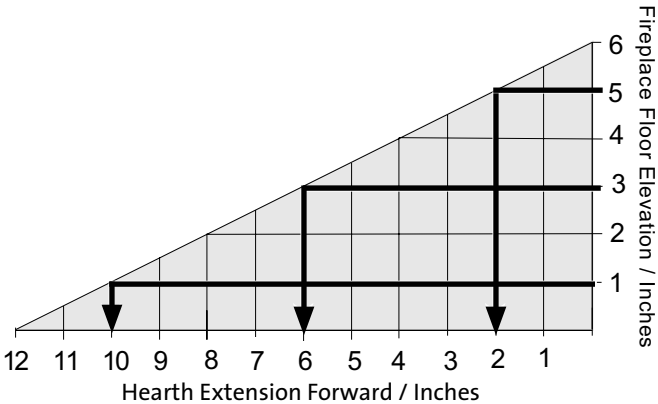

Figure 5.4. Hearth reduction slope.
**NOTE - Raised Hearth:** Forward hearth protection may be reduced by two inches for every inch of fireplace floor elevation. Fig. 5.4.